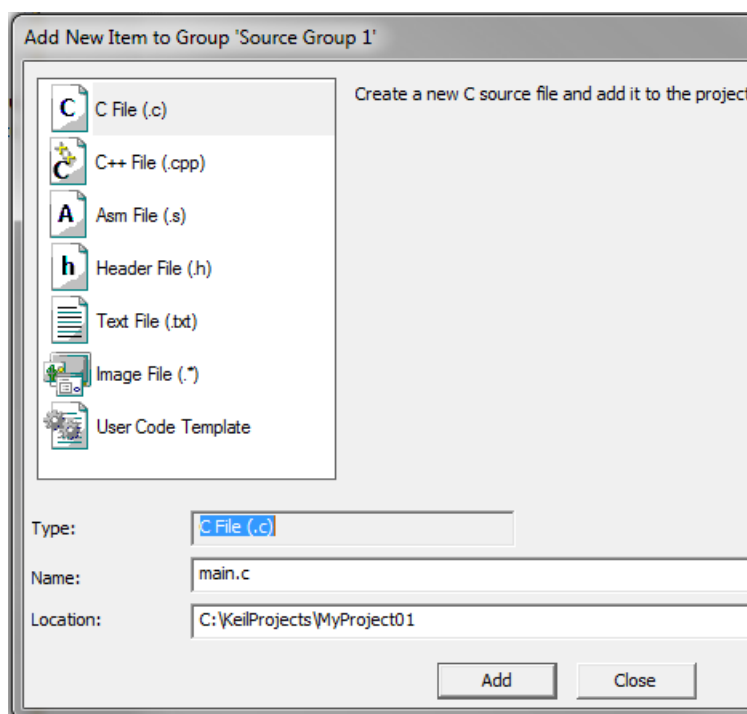

Figure 1-27. Adding new source file dialog
2. Select the C File (.c) option, and type a name of the file into the Name box, for example 'main.c'. See Figure 1-27.